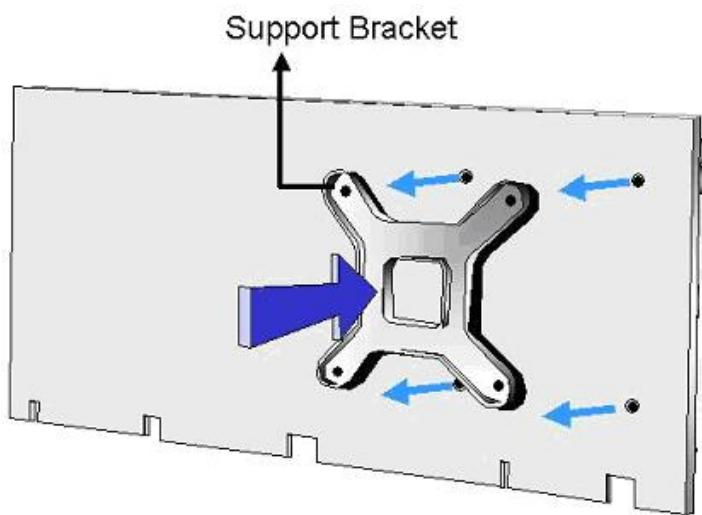

Figure 5-4: Cooling Kit Support Bracket
Step 3: Secure the cooling kit. From the solder side of the PCB, align the support bracket to the screw threads on heat sink that were inserted through the PCB holes. (See **Figure 5-4**)